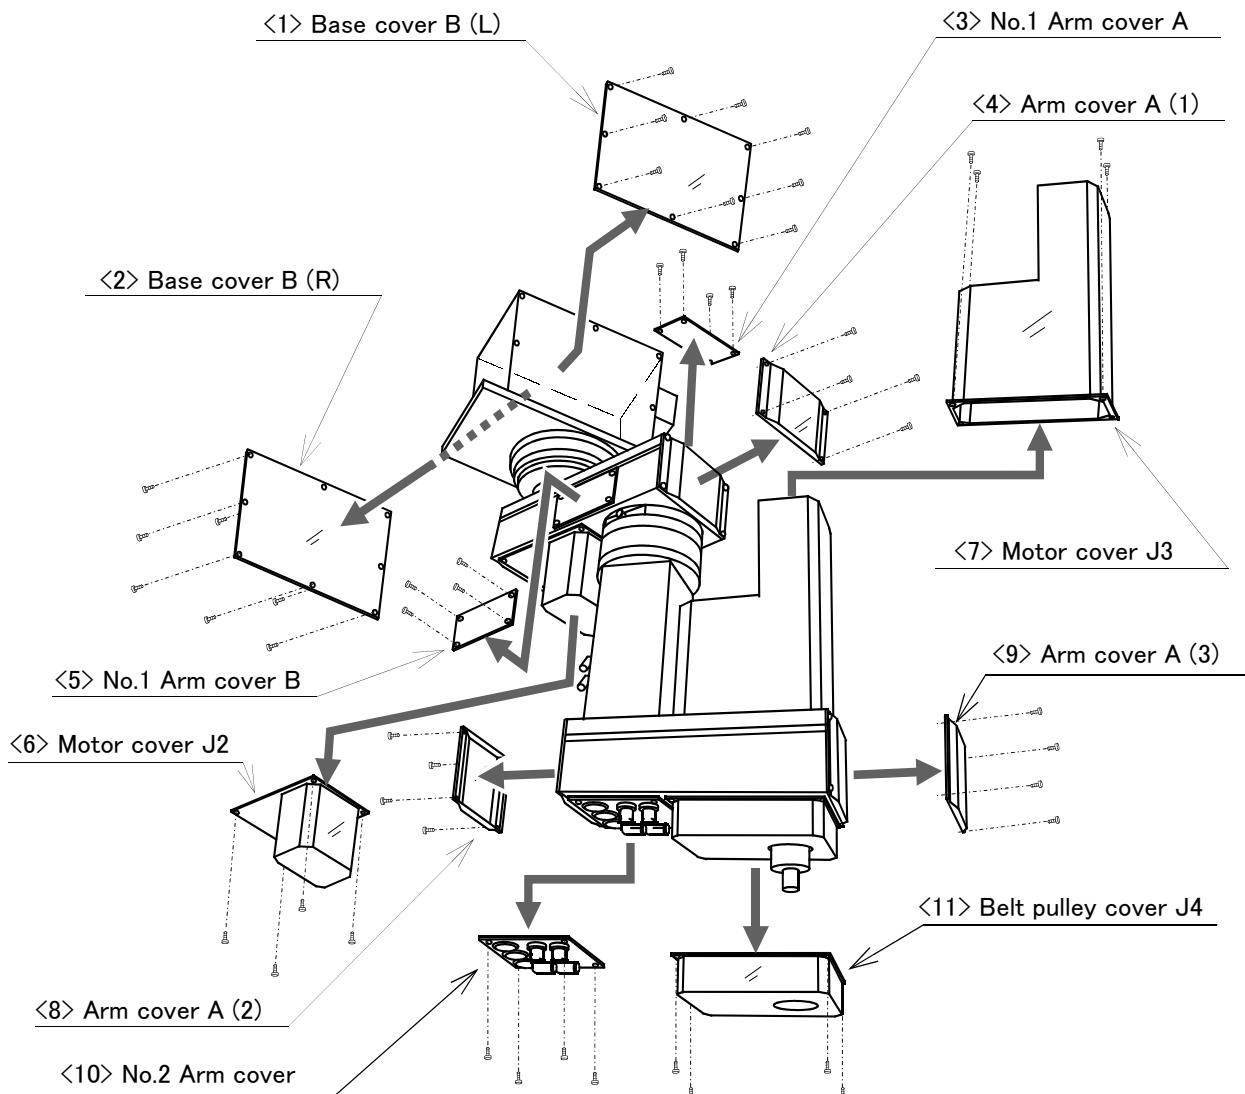

Fig.5-5 : Installing/removing the cover (RH-3FRHR series)
When you remove the cover, don't remove other than the screw shown in Fig. 5-5 and Table 5-5.
- (1) Refer to Fig. 5-5, and remove the covers.
- (2) The names of the cover and installation screw are given in Table 5-5. The number in Table 5-5 correspond to Fig. 5-5.
- (3) Depending on the robot's posture, some covers are hard to be removed. In such a case, change the robot's posture by performing jog operation to remove the covers.
- (4) When reattaching the covers after a maintenance inspection, proceed in the reverse order of their removal.